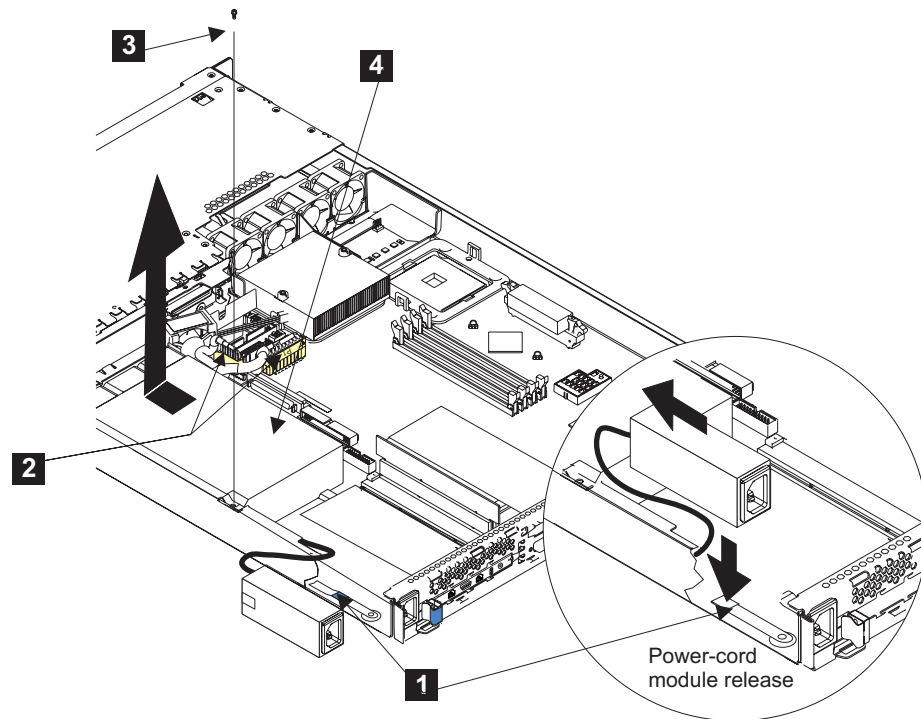

Figure 129. Removing the SAN Volume Controller 2145-4F2 power supply
5. Press down on the clip **1** at the front of the power-cable module and slide the module toward the front of the SAN Volume Controller 2145-4F2 until the alignment tab is free of the slot that is on the side of the SAN Volume Controller 2145-4F2. See Figure 129.